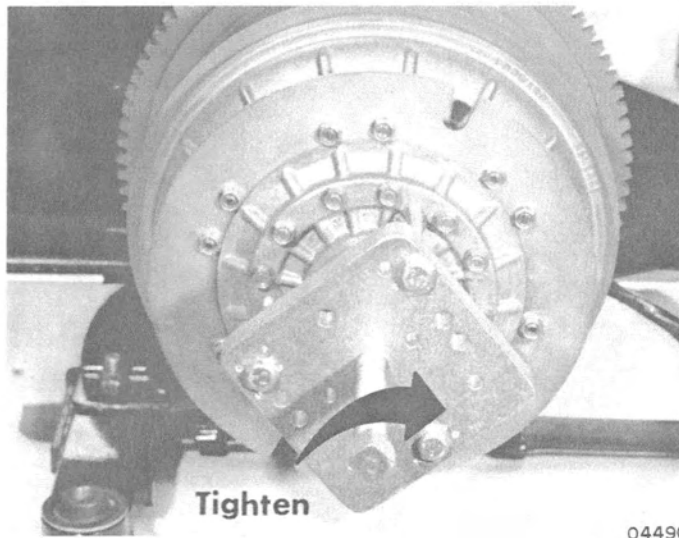

Figure 2. Loosening Clutch Bell from Flywheel Shaft
3. Place Thread Protector (C-91-54360) over flywheel stud. Install Universal Puller (C-91-25733A2) on clutch bell. Hold flywheel with flywheel holder and tighten center screw of puller until clutch bell snaps loose from flywheel shaft. (Figure 2)